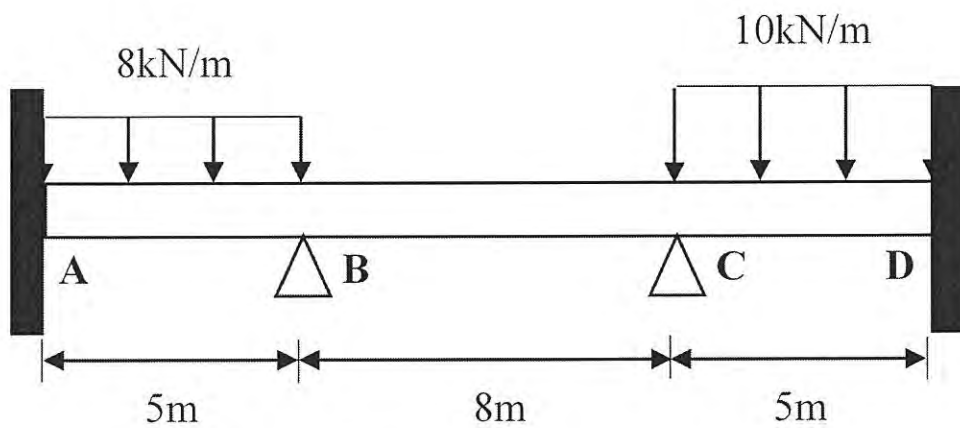

FIGURE Q2
- Q2** **Figure Q2** shows a continuous beam fixed at both ends A and D. The beam carries two uniformly distributed load of 8 kN/m and 10 kN/m on span AB and CD, respectively. The length of the span is shown in the figure and EI is constant.
- (a) Calculate the Stiffness, Distribution Factor (DF) and Fixed End Moment for each span of the beam. (8 marks)